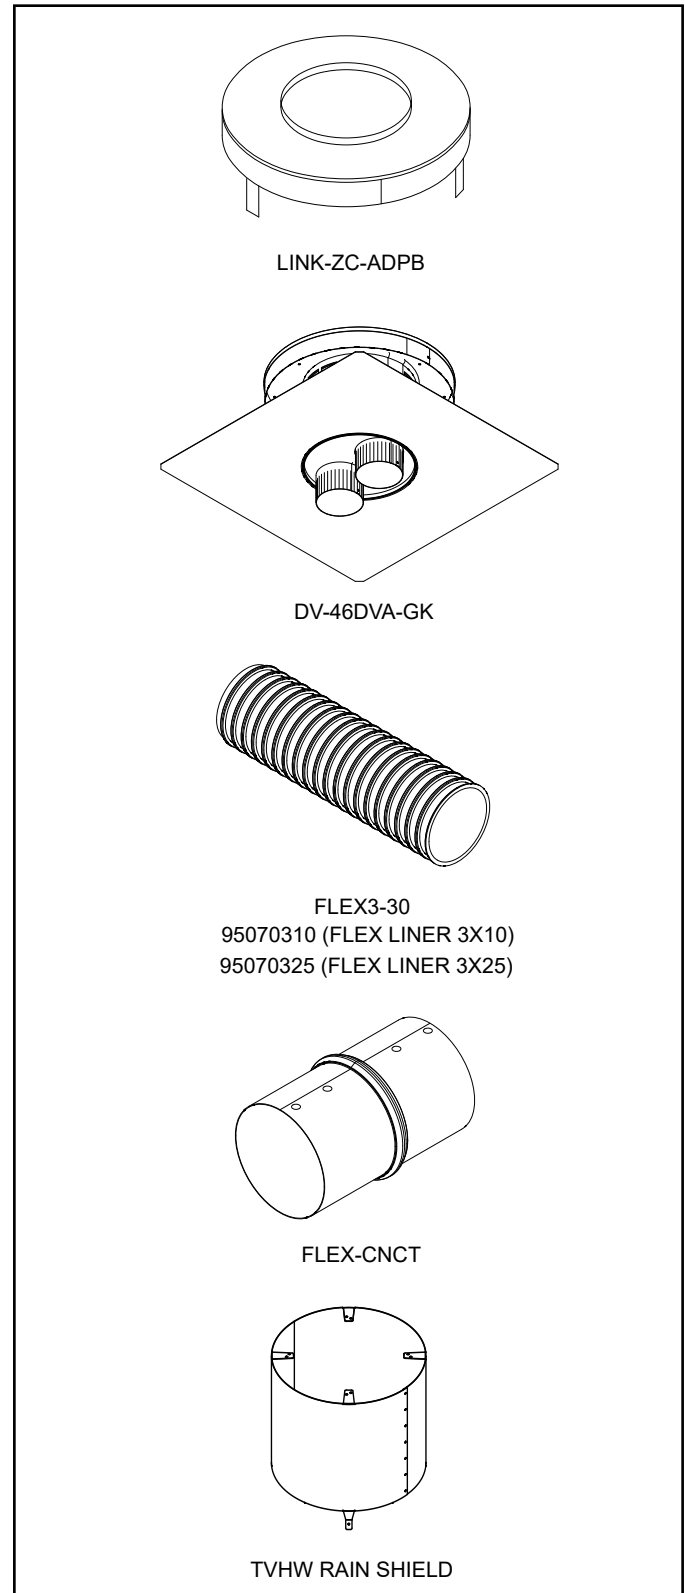

Figure 10.2 Direct Vent Flex Liner Accessory Kits
Direct Vent Flex Liner Accessory Kits. See Figure 10.2.
**NOTE:** For extreme rain / wind conditions TVHW RAIN SHIELD can be added to the termination cap. See Figure 10.2.